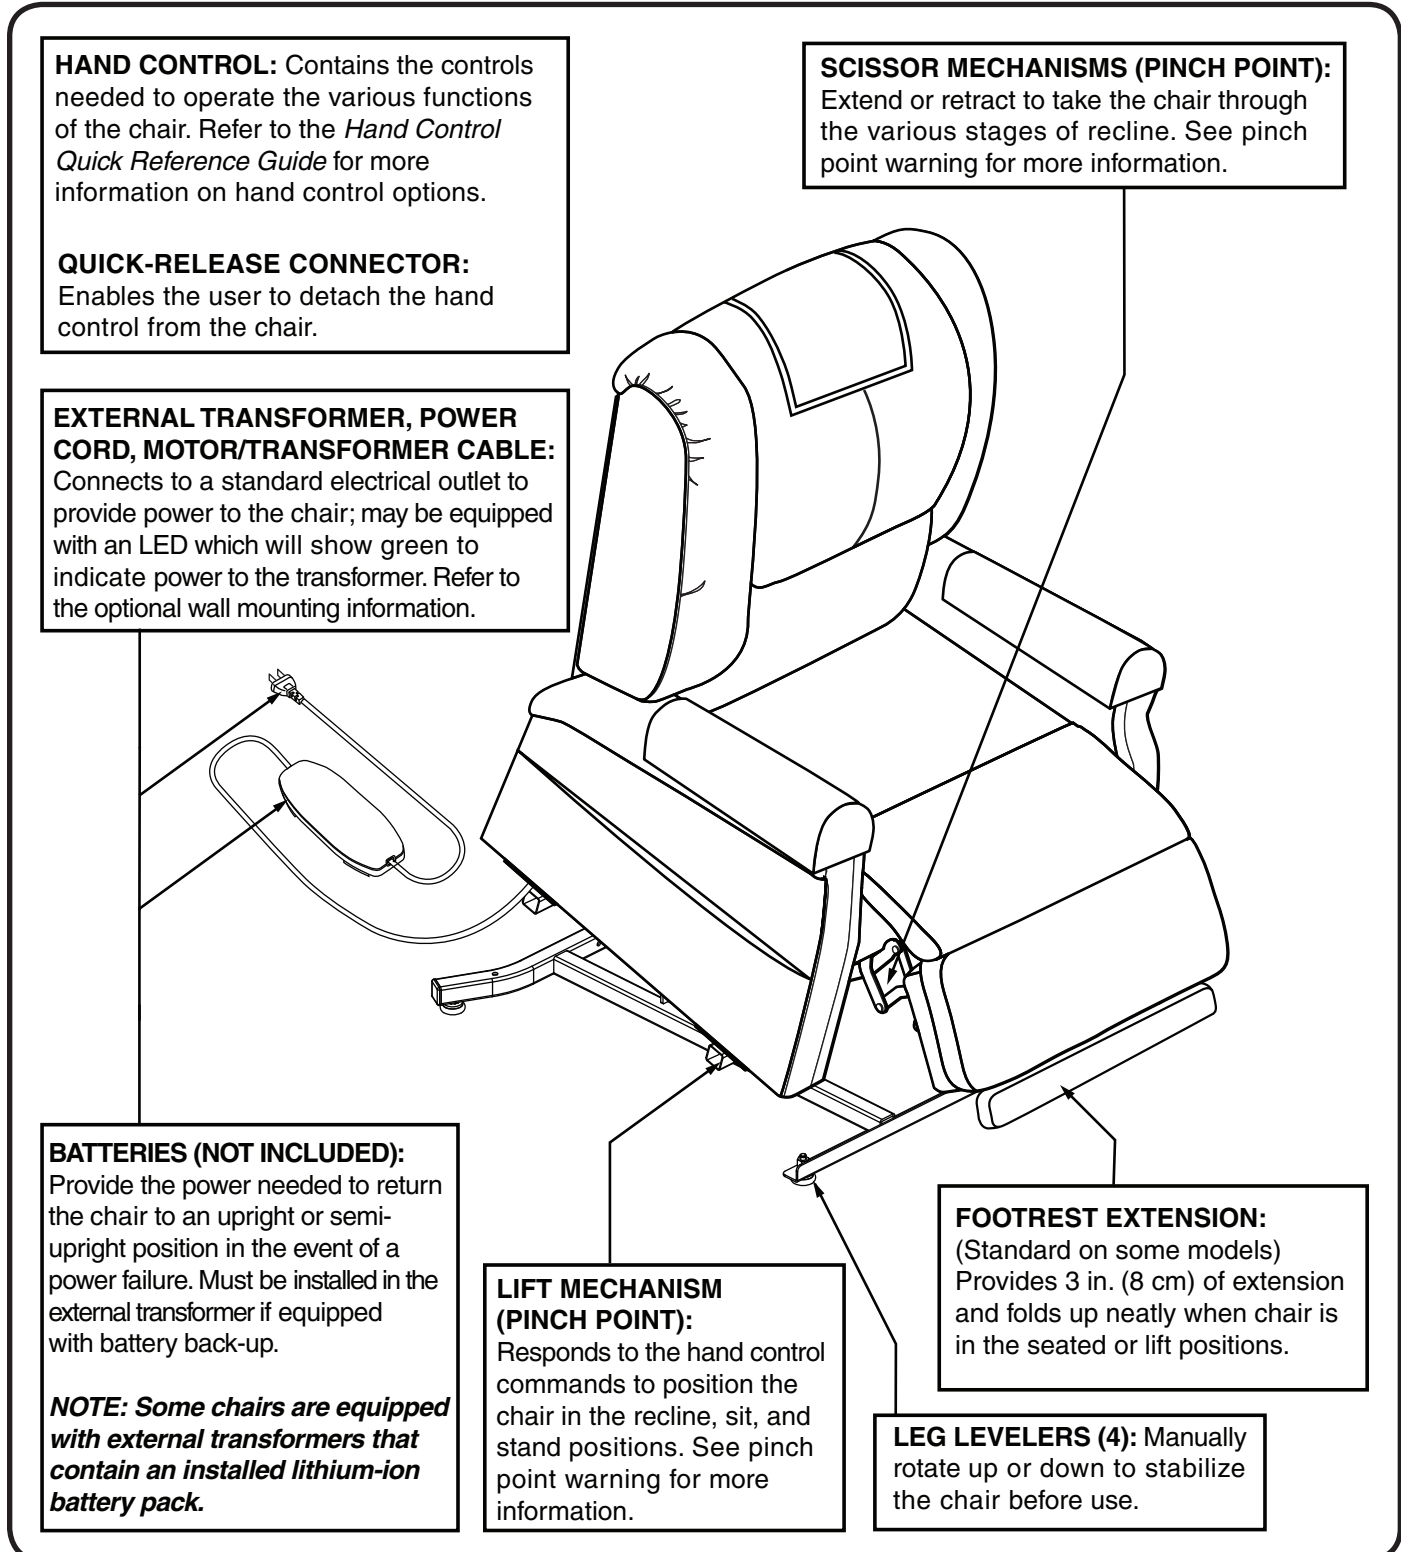

Figure 3.1 Chair Main Components
The scissor and lift mechanisms are labeled as pinch/crush point hazards on your chair. Keep clear of these areas and make sure the path of motion is unobstructed. See **figure 3.1** for pinch/crush point locations.
Chairs are equipped with several frame and electrical components. Typically, frame (or body) components include a removable back, chaise pad\*, seat, footrest, leg levelers, a lift frame, and scissor mechanisms. The electrical components include the external transformer with connection cables, hand control, motor, and batteries‡ (not included). Refer to **figure 3.1** and note that the illustrations and options listed may not reflect the type of chair that you own.
2. Adjust the leg levelers to stabilize the chair (fig. 3.1).